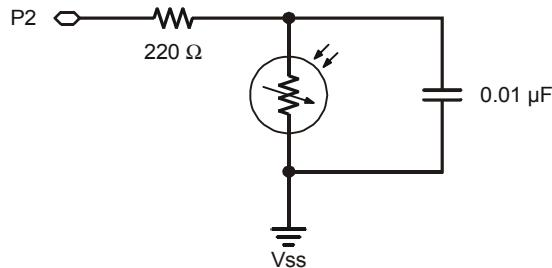
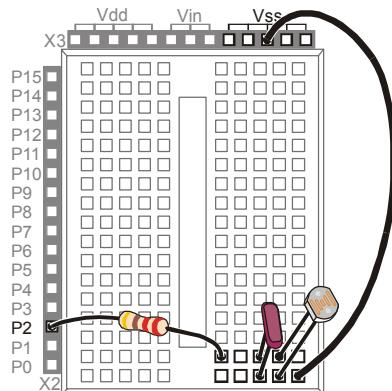

Figure 7-2
Figure 7-3
Figure 7-2 shows a schematic of the RC-time circuit you will use in this chapter, and Figure 7-3 shows the wiring diagram. This circuit is different from the potentiometer circuit from Chapter #5, Activity #3 in two ways. First, the I/O pin used to measure the
- ✓ Build the circuit shown in Figure 7-2 and Figure 7-3.
- ✓ Before you move on to the next activity, return the circuit to the original one shown in Figure 7-2 by removing the $0.1\ \mu\text{F}$ capacitor and replacing it with the $0.01\ \mu\text{F}$ capacitor.